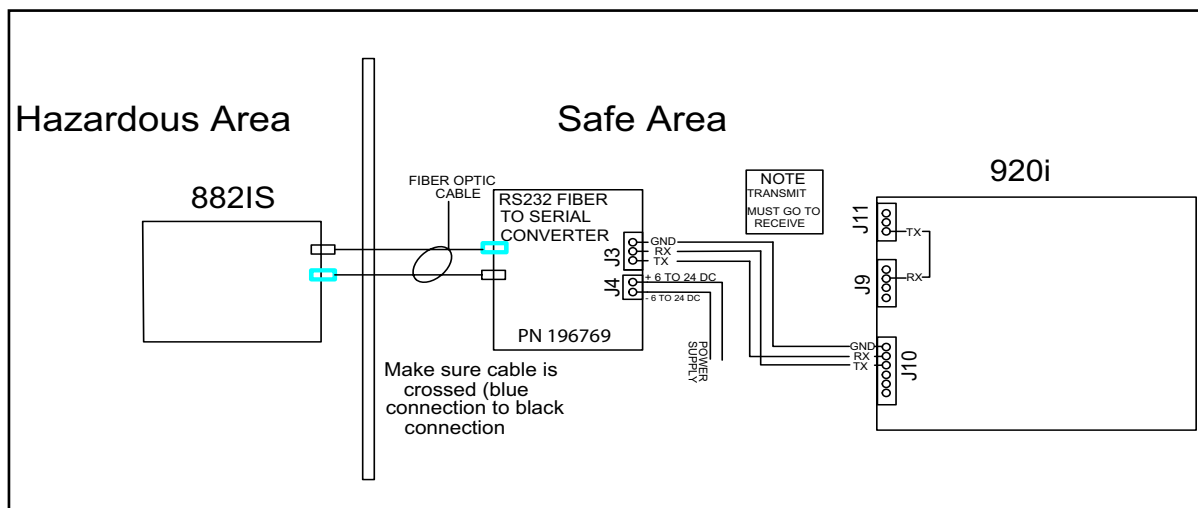

Figure 8-1. 882IS/882IS Plus Remote Setpoints RS-232 Hardware Model Example
The 882IS/882IS Plus indicator is capable of controlling setpoint batching on a remote Rice Lake Weighing Systems 920i weight indicator. This capability enables an industrial batching engine to run in a safe environment, controlled by the 882IS/882IS Plus through a fiber-optic cable from a hazardous area. See Figure 8-1 to see examples of how this is set up. With a special iRite program, the 920i is capable of running as a serial scale with batching setpoints controlled by the 882IS/882IS Plus indicator.
- RS-232 fiber to serial converter box (PN 196769) (Figure 8-1 on page 72)
1. Wire up connections from the RS-232 Fiber Adapter to the 920i indicator (Figure 8-1 on page 72) for connections.